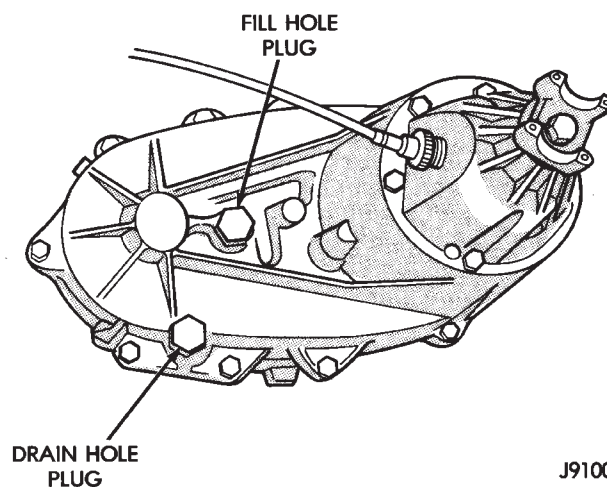

Fig. 3 Transfer Case—Typical
The transfer case drain/fill hole plugs are located at rear of housing (Fig. 3).
- (1) Raise and support vehicle.
- (2) Remove fill hole plug (Fig. 3). The fluid level should be at bottom edge of fill hole. The level can be slightly below bottom edge of fill hole if fluid is cold.
- (3) If level is not acceptable, raise fluid level to bottom edge of fill hole with:
- (4) Install fill hole plug (Fig. 3). Tighten fill hole plug to 27 N•m (20 ft-lbs) torque.
- (5) Remove support and lower vehicle.
- (2) Remove fill hole plug (Fig. 3) from transfer case.
- (3) Place an appropriate container under transfer case drain hole plug (Fig. 3).
(4) Remove drain hole plug. Drain fluid from transfer case into container.
(5) Install drain hole plug (Fig. 3). Tighten drain hole plug to 27 N•m (20 ft-lbs) torque.
(6) Fill transfer case to bottom edge of fill hole with:
(7) Install fill hole plug. Tighten plug to 27 N•m (20 ft-lbs) torque.
(8) Remove support and lower vehicle.